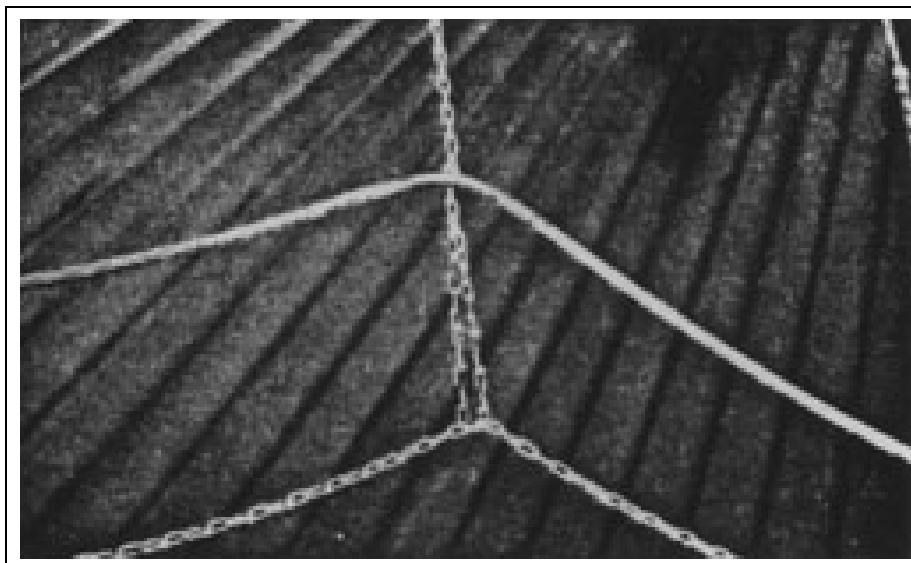

Figure 4AN
32. After the Red Giant Stir-Ator has been put into position in the bin, BE SURE THE TWO (2) TRACK HOLD-DOWN ROLLERS ARE PUT INTO PLACE AS SHOWN IN Figure 4AQ on Page 34 and See Page 50. IF THESE HOLD-DOWNS ARE NOT INSTALLED, THE RED GIANT STIR-ATOR COULD COME OFF THE TRACK WHILE IN OPERATION.